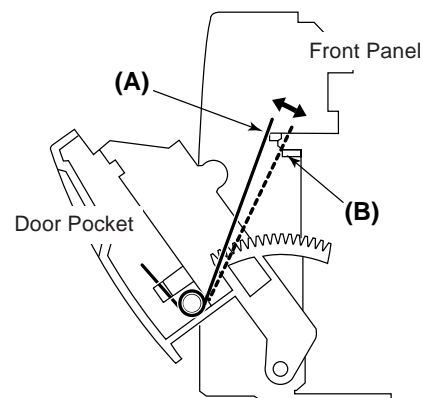

Fig. 6-1
Set the door spring of the DECK I side to position (A) as shown in Fig. 6-1. Then, erect the front panel assembly vertically.